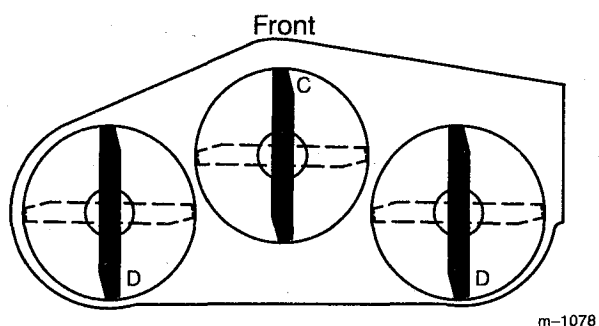
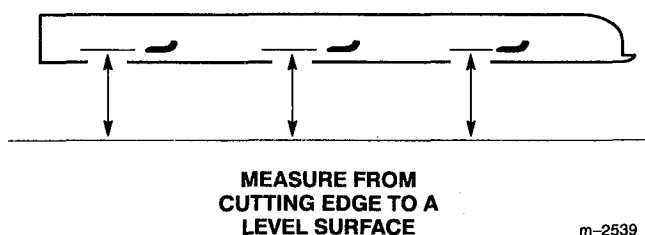

Figure 20
Figure 21
2. Position the blades front-to-rear (Fig. 20). Measure at "C" and "D" locations (Fig. 20) from a level surface to the cutting edge of the blades (Fig. 21).